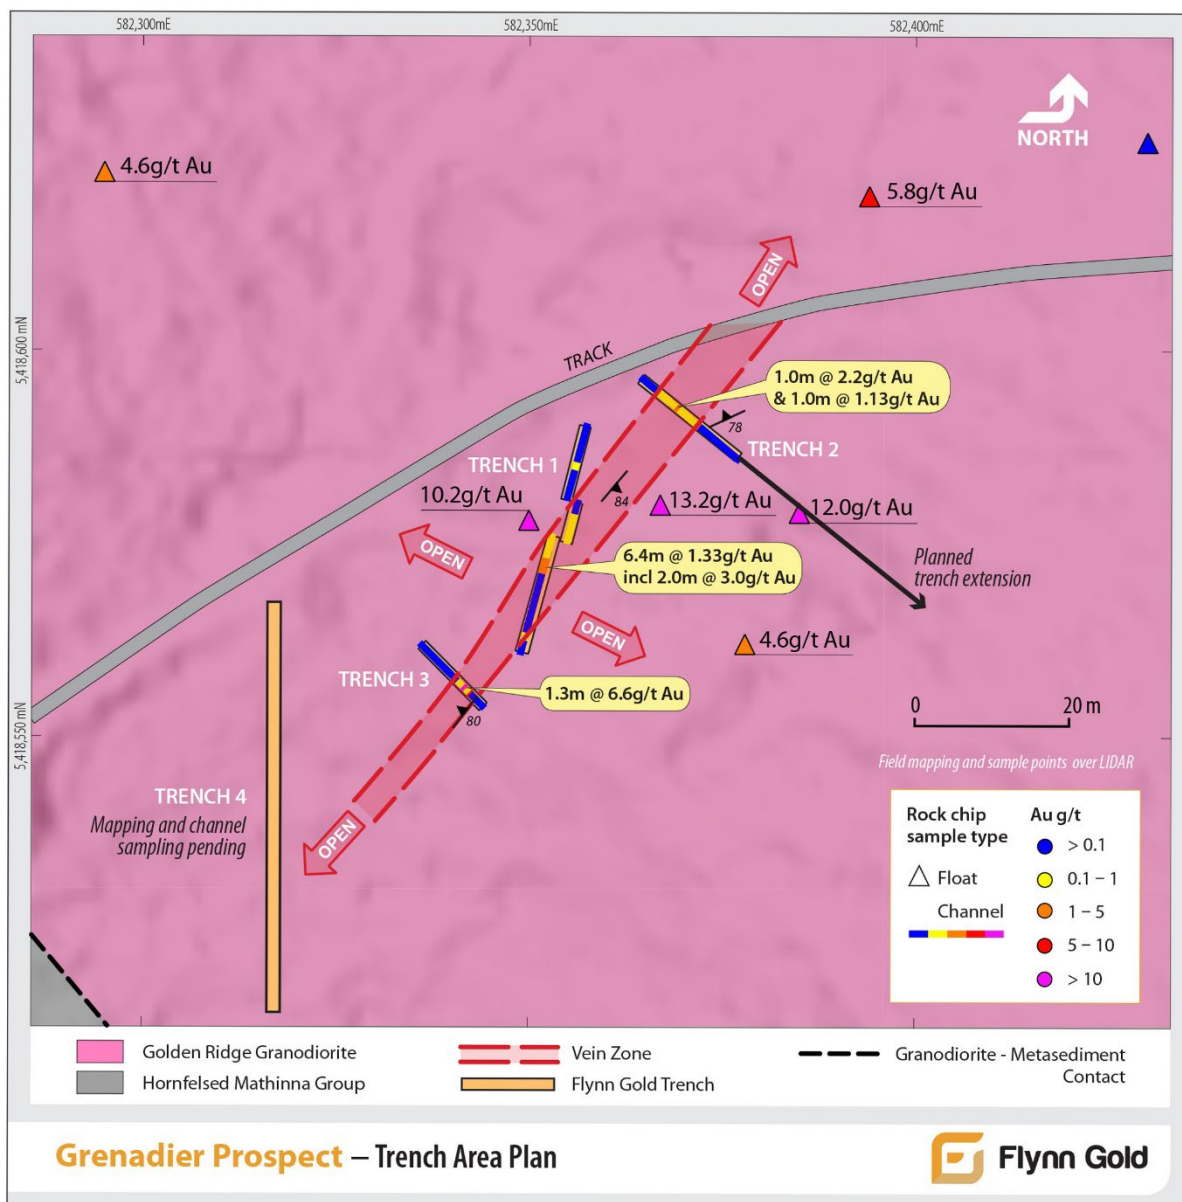

Figure 5 – Grenadier Prospect: Trench Area Plan
The soil and surface sampling anomalies were followed up with reconnaissance trenching (Trenches 1 to 3) which successfully discovered in-situ quartz-sulphide veining over a strike length of 50m (open), under a relatively shallow regolith cover (see Figure 5).
- Trench 1: 6.4m @ 1.33g/t Au, including 2.0m @ 3.0g/t Au (see Figure 5).
The trenching campaign at Grenadier is ongoing. Trench 4 (see Figure 5) has been completed with mapping and channel sampling in progress. The Company also intends extending Trench 2 to test for parallel/sub-parallel veining and strike extensions to the known mineralisation.